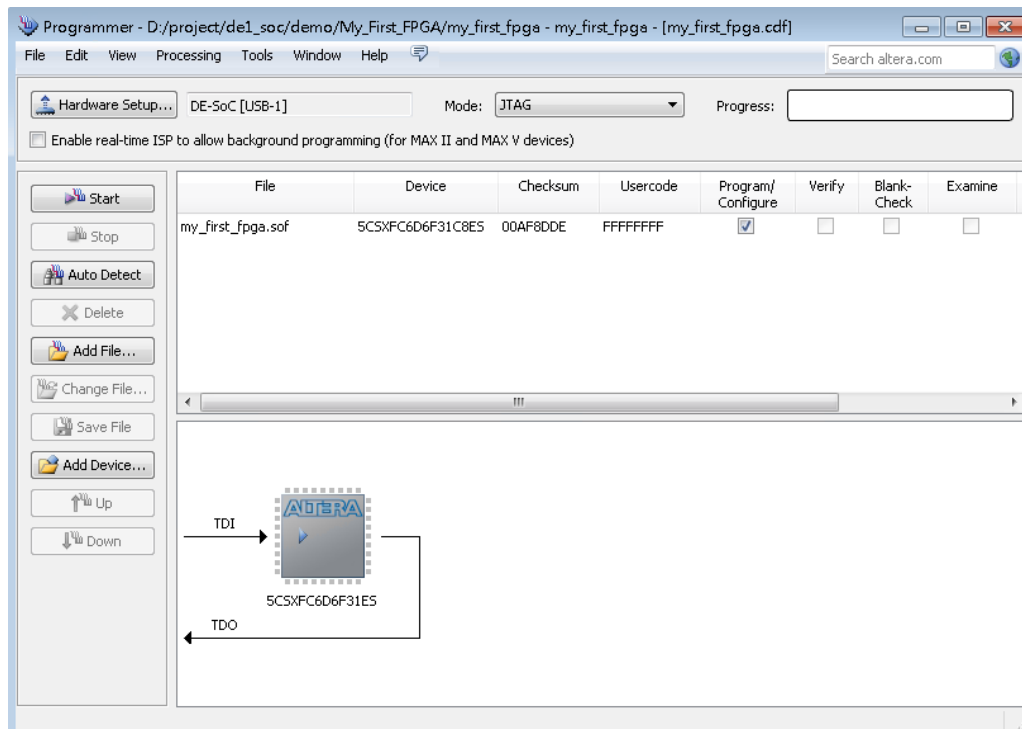

Figure 4-3 Programmer Window
- Choose Tools > Programmer. The Programmer window opens. See Figure 4-3.